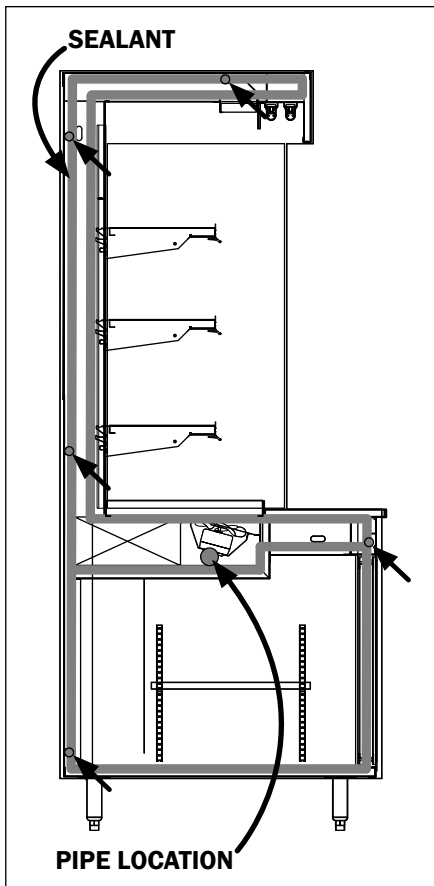

Fig. 2 Sealant, piping, and bolt locations
4. Push the cases tightly together, then lightly bolt them together through the holes provided (Fig.2). Tighten all the joining bolts until all margins are equal. Be careful not to over tighten.
5. Install PVC fitting between cases with case to case piping. The stub-up location can be found under the tank on the customer left (Fig. 2). It is very important for line ups